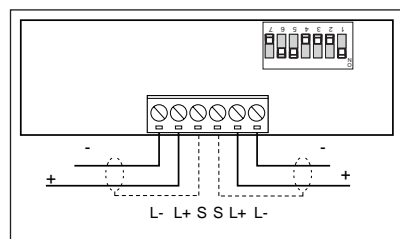

Fig. 3 Terminal block connection
- Run the cables from the loop into the backbox and connect them to the terminal block as shown in Fig. 3. Ensure that functional earth/screen continuity is maintained.